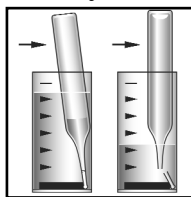

Figure 3
4. Place the CHEMet ampoule in the sample cup. Snap the tip by pressing the ampoule against the side of the cup. The ampoule will fill leaving a bubble to facilitate mixing (fig 3).